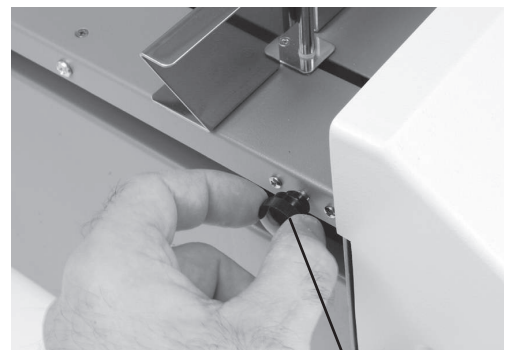

Fig. 11
11. If the fold is skewed, remove paper, lower the infeed tray extension and turn the skew adjustment knob left or right to make corrections (Fig. 11).